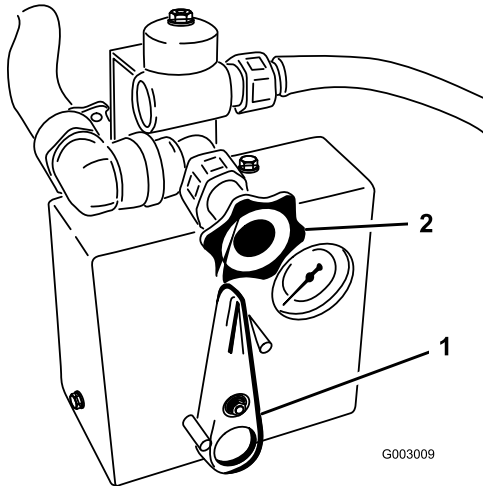

Figure 20
- Turn the pressure control knob counter-clockwise (Figure 20).
- Move the control handle clockwise, pointing up (Figure 20).
- While spraying, use the pressure control knob to adjust the hand spray pressure (Figure 20).